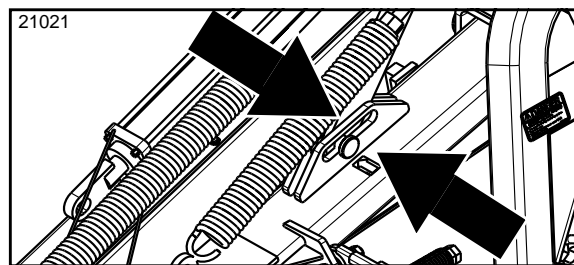

Figure 2-2
9. The check chain is used when tractor's 3-point hitch is unable to hold the mower in the working position. Attach check chain to top 3-point center link of tractor making sure that hitch stop pin is aligned with run indicator decal #838-524C as shown in Figure 2-2 below. This is known as the working position.
1. Refer to **Figure 2-2** on page 13. Position 3-point arms so that hitch level stop pin aligns with run indicator arrow (decal 838-524C).
2. Refer to **Figure 2-2** on page 13. Position 3-point arms so that hitch level stop pin aligns with run indicator arrow (decal 838-524C).